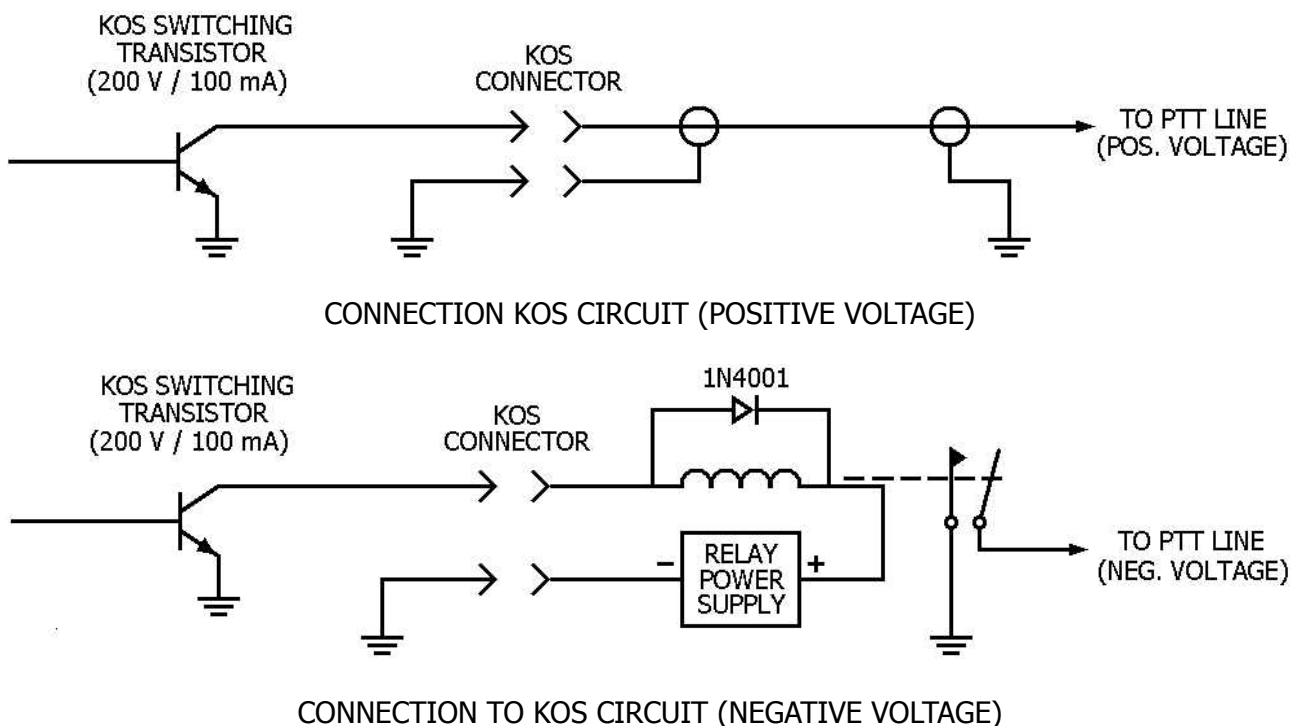

Figure 5 – KOS Circuit Connections
4. A shielded cable between the transmitter microphone push-to-talk (PTT) input and the CWR-6850 SW. OUT - REMOTE connector (KOS for Keyboard Operated Switch). The other half of the stereo cable used for transmit audio can be used for this connection. As above, consult the transmitter manual for connector and pin numbers. The NPN transistor KOS switch will only switch positive voltage PTT circuits directly; negative voltage PTT circuits will require an external relay. This relay may be connected as shown in Figure 5.
The connection of the tape recorder to the CWR-6850 is shown in Figure 5. Use shielded cables for these connections; include RF and safety grounds to minimize any RF pickup in the tape recorder.